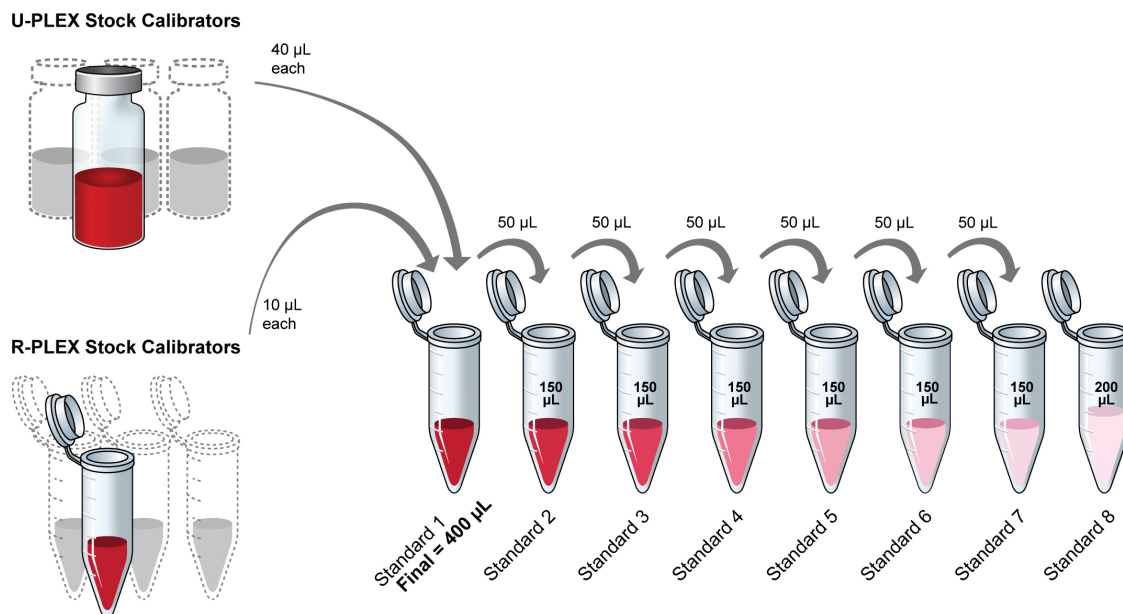

Figure 5. Dilution schema for preparation of Calibrator Standards for multiplex assays.
4. Prepare eight Calibrator Standards (seven calibrator solutions plus a zero calibrator) for R-PLEX and/or U-PLEX calibrators (Figure 5, Table 7):